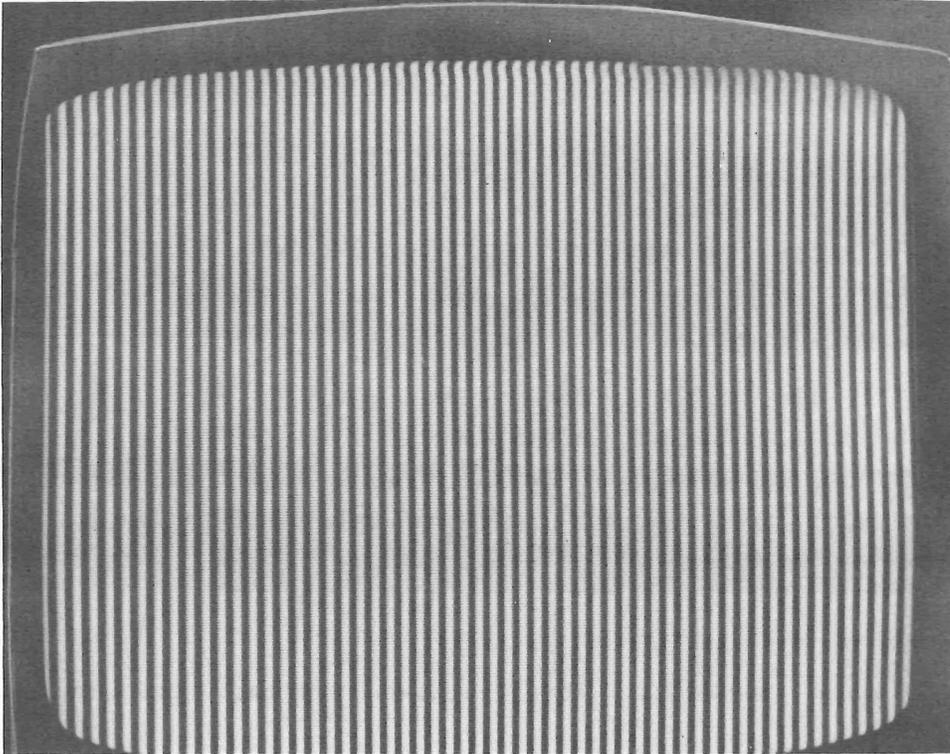

Fig. 46—KS-21889-L1 Memory Unit Test Pattern
6.06 On the KS-21889-L1 memory unit, verify that ON LED is illuminated and fan is *audible*. On the KS-21889-L3 memory unit verify that fan is *audible*. Also on the KS-21889-L1, verify that for several seconds after turnon from standby, a test pattern of alternating black and white lines appear on the monitor (Fig. 46).